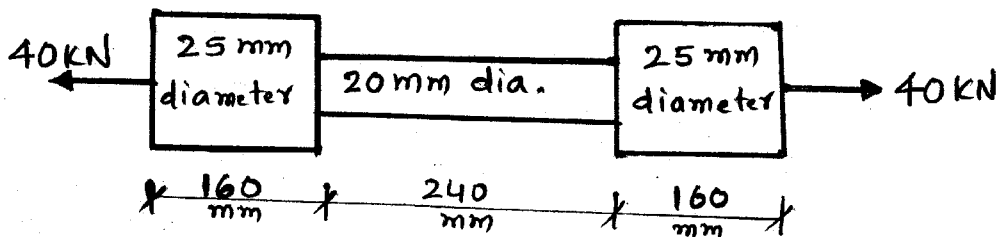

Fig. 2
- (b) The bar shown in Fig. 2 tested in U.T.M. It is observed at a load of 40 kN the total extension of the bar is 0.285 mm. Determine the Young's modulus (E) of the material. 6